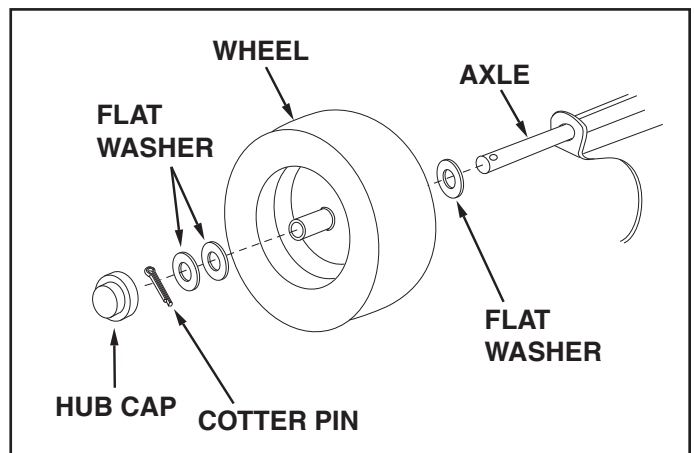

FIGURE 12
- Assemble a flat washer, a wheel with the valve stem facing out, and two more flat washers onto the axle as shown in figure 12. Secure the wheel on the axle with a cotter pin, spreading the ends. Assemble the hub cap by pressing it onto the flat washers. Repeat on other end of axle.